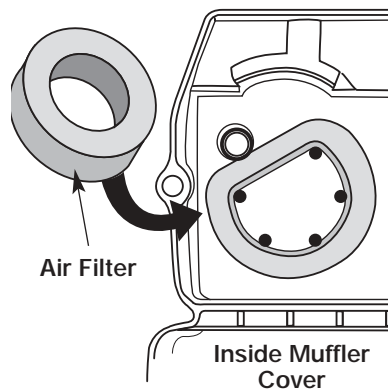

Fig. 21
2. Turn cover over and look inside to locate the air filter. Remove the air filter from inside the air filter/muffler cover (Fig. 21).
6. Replace the air filter inside the air filter/muffler cover (Fig. 21).